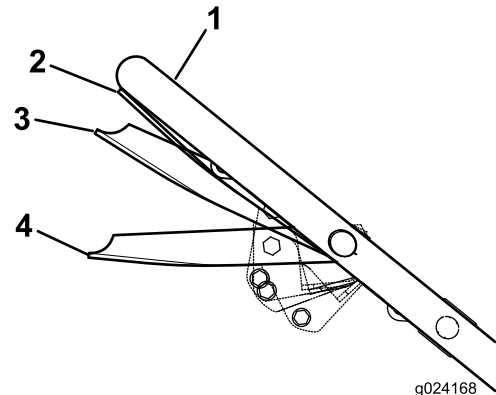

Figure 20
3. Squeeze the blade-control bar against the handle to the Run/Drive position (Figure 20).
transmission. Move the blade-control bar to the Run/Shift position (Figure 20) whenever you change the ground speed.